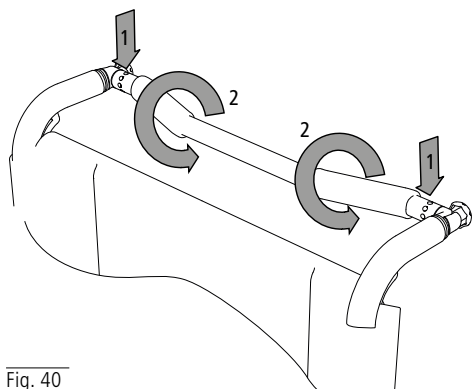

Fig. 40
1. To do this, loosen the two Allen screws (left/right) (1, Fig. 40) and unscrew them completely.
2. Bring the handlebar into the position that is comfortable for you. (2, Fig. 40). Tighten the screws again.